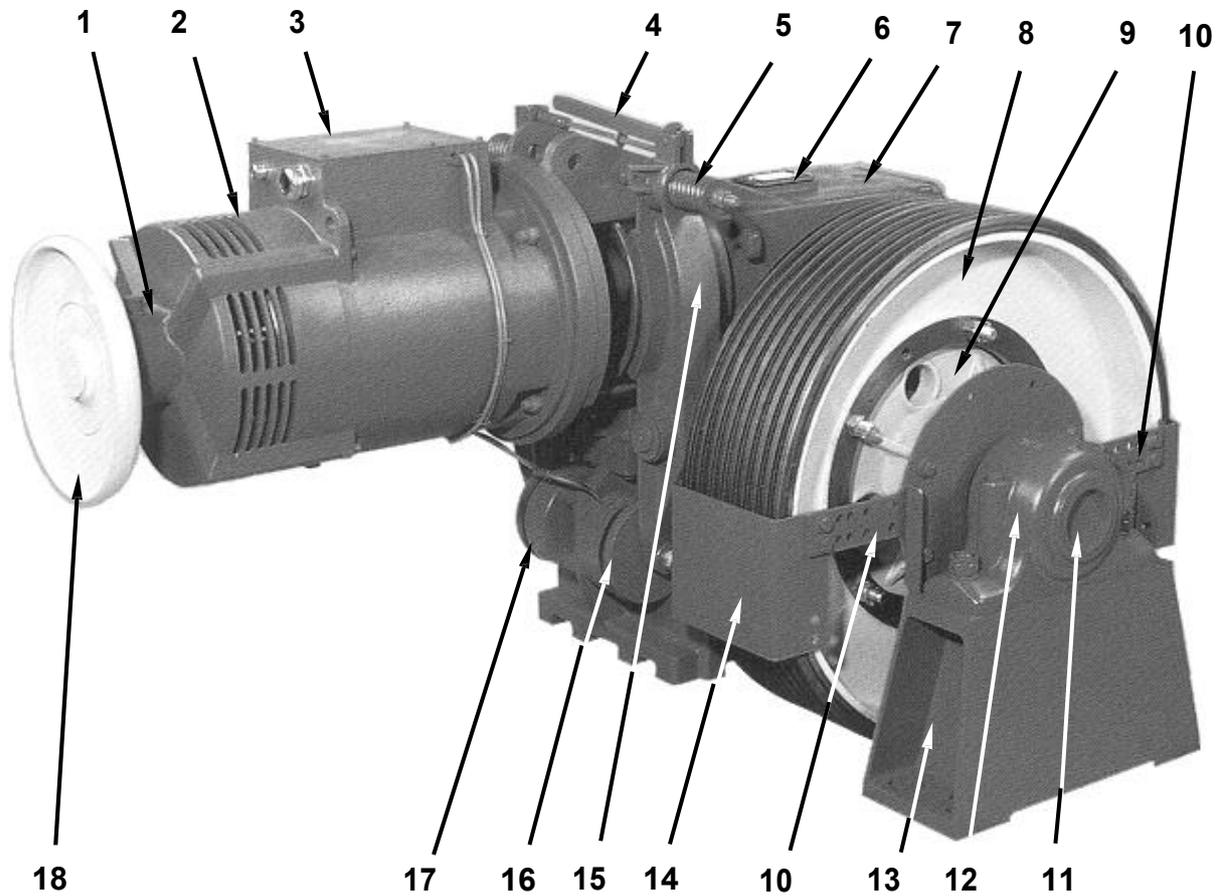

Fig. 2.1
(illustration Fig. 2.1 in right-hand design)
The wheel shaft mounted on sleeve bearings and the overhead worm shaft mounted on sleeve and roller bearings are lubricated with synthetic gear oil. The forces on the installation surface are transferred on the traction sheave side via an outside bearing (self-aligning bearing), on the machine side via two compensating supports fitted at the plant under the gear box casing (Fig. 2.1. item 16).
As standard, a pulse generator is fitted on the shaft end of the motor (before the handwinding wheel), see Fig. 2.1.